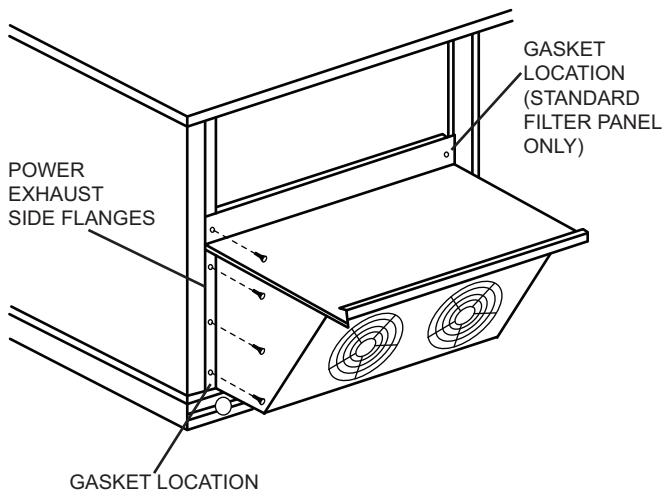
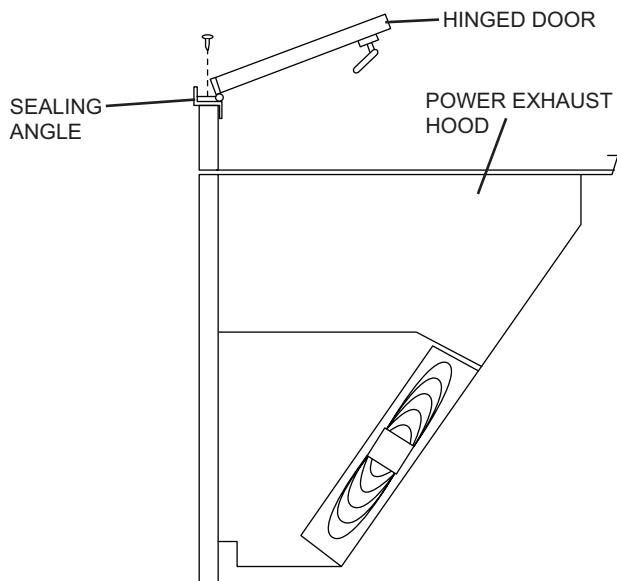

Fig. 14 — Power Exhaust Installation
Fig. 16 — Install the Hinged Door
2. Attach the sealing angle to the top of the power exhaust hood using the screws provided. Refer to Fig. 14 and 15. Note that the gasketing flange will be facing out.
6. Remove the hinged door and drill four (4) $11/64$ in. holes where the marks are.
7. Place the door and hinges back on the unit. Screw through the door hinges and sealing angle into the flanged top of the hood using the 4 screws set aside when the hinged door was removed. (See Fig. 16.)